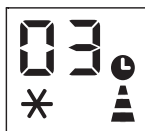

Fig. 6
- Press several times until the corresponding time is displayed. Wait about 5 seconds, the timer will be active. then only the  symbol is displayed on screen.(fig 6)